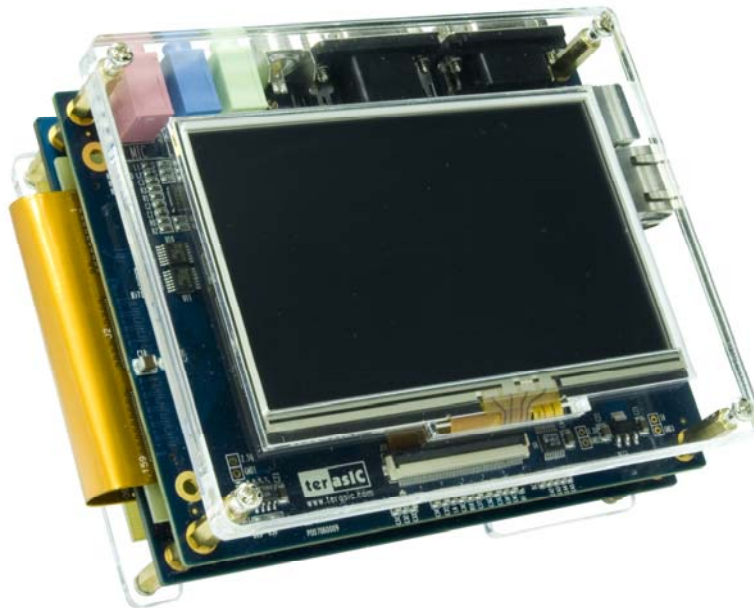

Figure 1.1. The BRICK form of combining the MTDB to an Altera Cyclone III Starter Board.
- [Optional] Components to assemble the MTDB with a Cyclone III Starter Board into a BRICK format as shown in Figure 1.1. The detailed instructions on how to assemble MTDB with a Cyclone III Starter board into a BRICK format can be found in the *CycloneIII_Starter_Board/BRICK* folder of the **MTDB System CD-ROM**